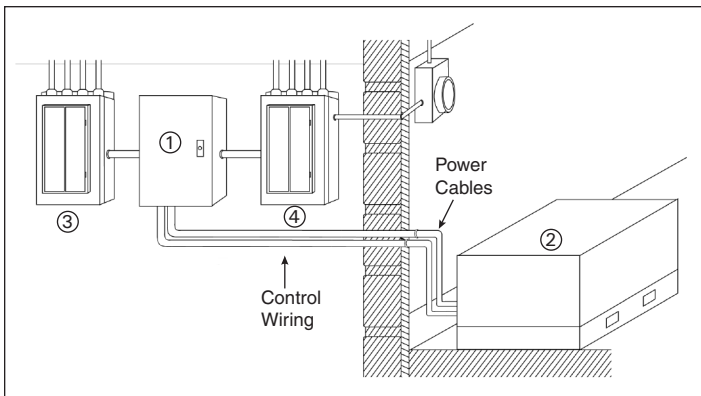

Figure 17. Typical Installation of a Residential TS
In a typical installation for critical loads (see Figure 17), the TS (1) and the generator (2) are connected to the power supply. The TS (1) and emergency distribution panel (3) receive utility power from a dedicated breaker in the utility service panel (4). The TS and emergency panel receive generator power from the generator (2). Power from the utility feeds the utility panel.